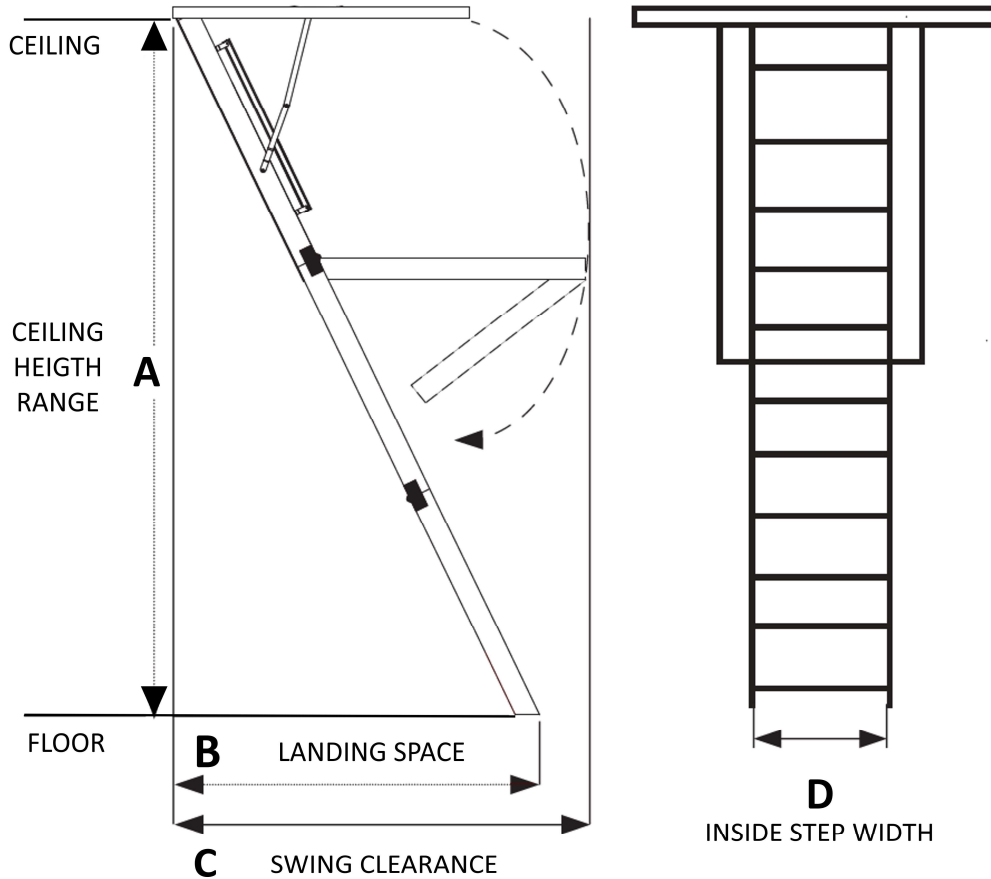

FIGURE 3
Locate the folding attic ladder rough opening so that you have adequate walking area for accessing the steps at the ground level. When climbing and entering the attic, make sure there is sufficient head clearance and attic flooring support. Allow ample swing clearance and landing space for the folding attic ladder. See **Figure 3** and **Table 3**.
2. **Replacement:** Verify the current rough opening size, placement, and framing integrity (See Inspection instructions below). See **Figure 3** and **Table 3**. If adjustments are needed, see **APPENDIX** to reframe the rough opening.